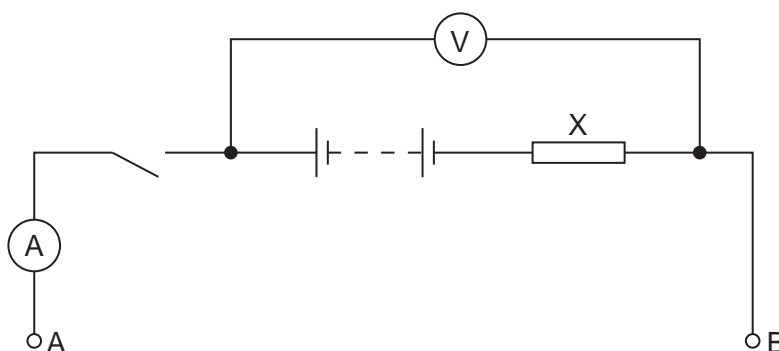

Fig. 4.1
3. The Supervisor should set up the apparatus as shown in Fig. 4.1. The terminals A and B should be clearly labelled.
5. At the changeover, the apparatus should be restored to its original state as in Fig. 4.1, removing the resistors between A and B. If cells are used, they should be checked and replaced, if necessary.